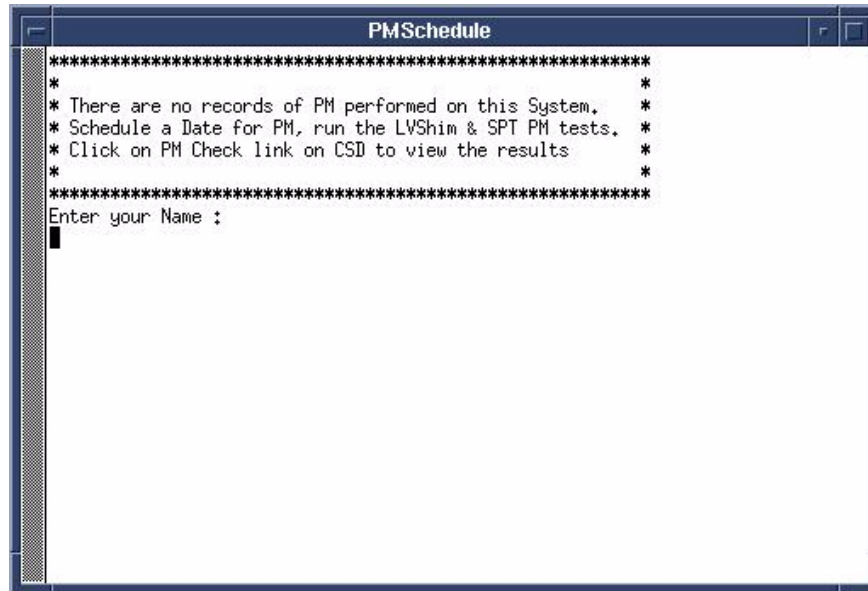

Figure 34
2. Enter your Name or initials, and press the [Enter] key. See Figure 34.